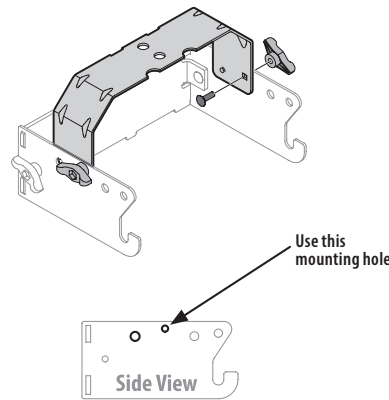

Figure 2
2. Flip over assembly and mount the hitch support bracket to the mounting assembly with two wing knobs as shown in Figure 2.